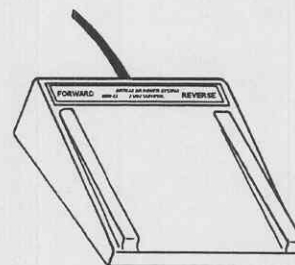

Figure 2-19. Footswitch.
l. To use the footswitch, depress either the forward or reverse footswitch bar (fig 2-19). To reactivate the handpiece fingertip controls, simply depress the blue footswitch selector on the console. The switch will no longer be illuminated.